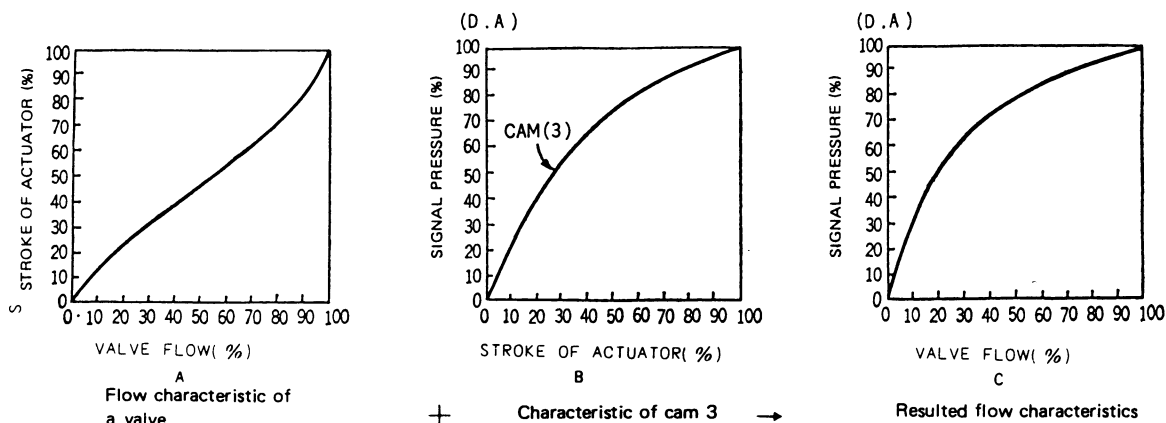

Figure 8. Application of Cam
While the flow characteristic of the valve are as shown in Fig. 8-A, flow characteristic of equal percentage may be required by the conditions of the process. In such a case, cam (3) will be selected from a group of curves of normally closed valves. Through combination of the selected cam with the valve, quasi-equal-percent characteristic as shown in Fig. 8-C can be obtained.